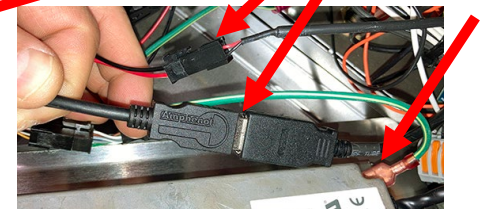

Figure 19
13. Attach the speaker wire, the ground wire and the USB with the sleeve to the USB extension, if the controller is in the far-left position on the fryer (see Figure 19).